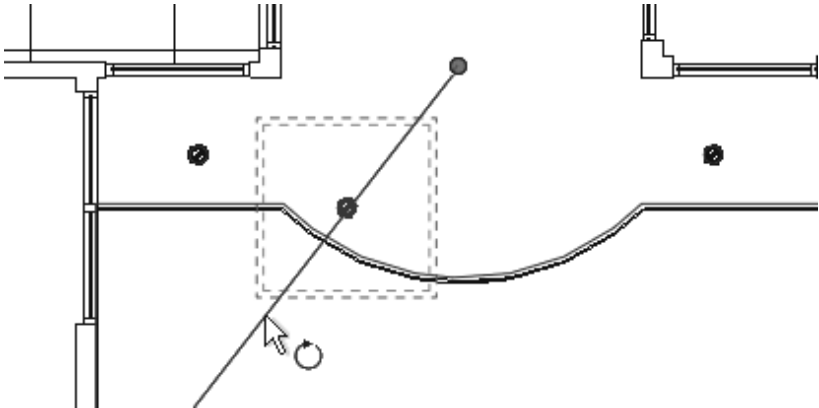

Figure 2–58
4. Drag  (Center of Rotation) or in the Options Bar click **Place** to the move the center of rotation to the appropriate location, as shown in Figure 2–58.